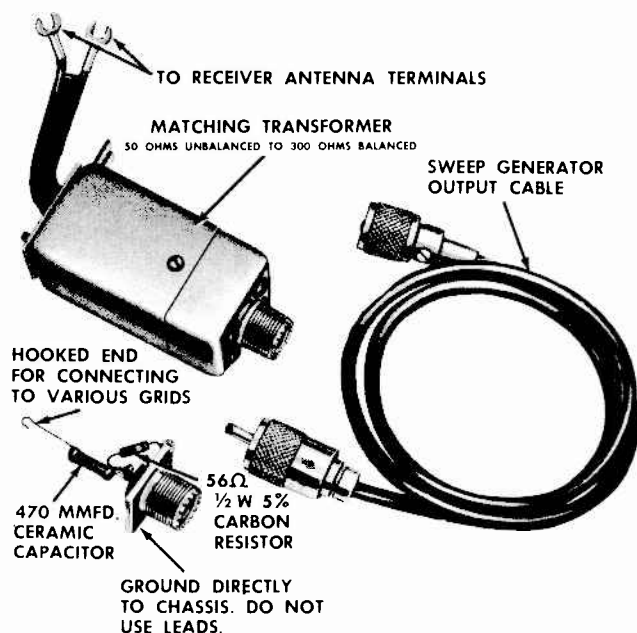
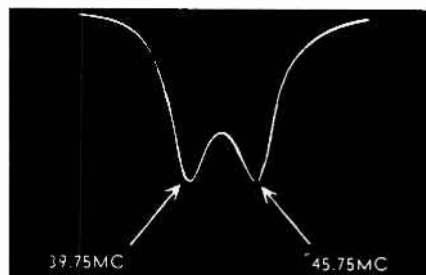

Fig. 14 IF-RF Alignment Fixtures
Fig. 16 4th IF Response.
3. Feed the output from the sweep generator through the special termination unit shown in Fig. 14 to point "C" (Pin 1 of 6CB6, 3rd IF). Adjust the generator until a pattern similar to Fig. 16 is obtained.
4. Set the Marker Generator to 45.75 Mc and alternately adjust the top and bottom slugs of the 4th IF transformer for maximum gain and symmetry with the 45.75 Mc markers positioned as shown in Fig. 16. The 39.75 Mc marker can be within ± 0.5 Mc of the specified frequency. If the correct response curve cannot be obtained in this step, check the position of the two slugs to see that they are entering their respective coils from the opposite ends of the coil form. The position of the slugs near the center of the coils may change the coefficient of coupling, making correct alignment difficult if not impossible.
3. Use a 50 to 300 ohm matching transformer (Fig. 14) and feed the output from the sweep generator to the antenna terminals of the receiver.